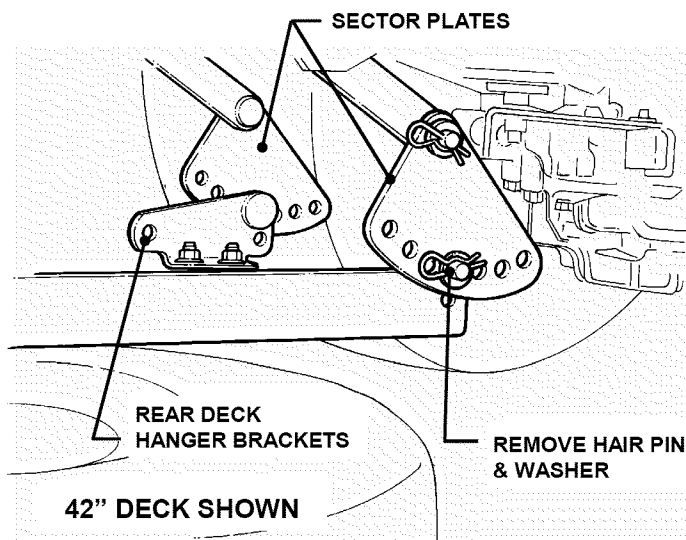

FIGURE 4.22
11. Slide sector plates off of rear deck hanger brackets. See Figure 4.22.